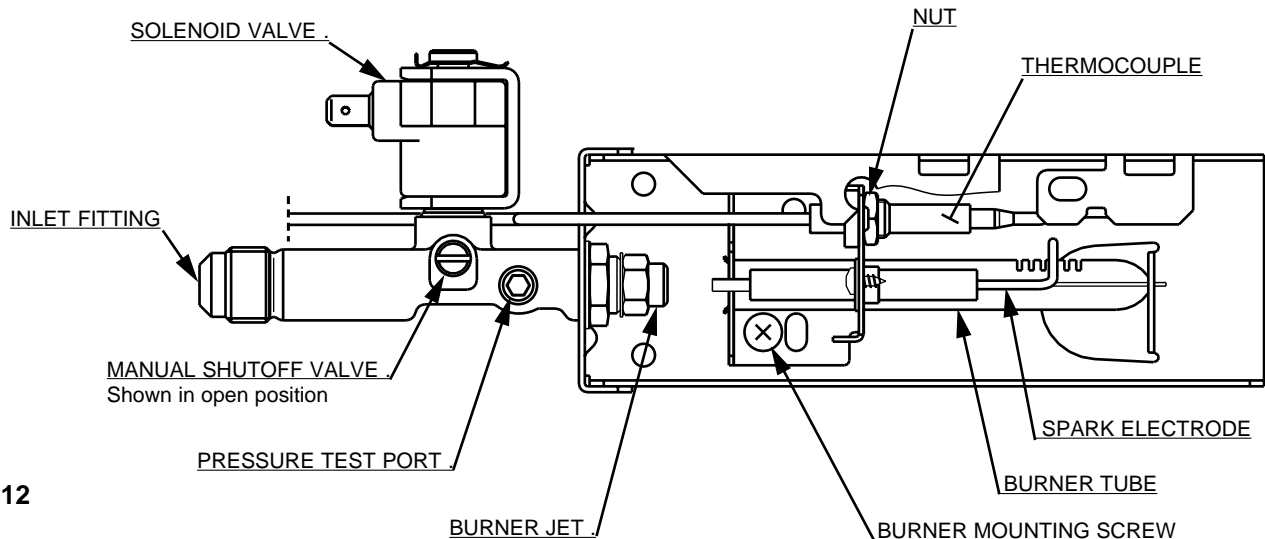

FIG. 12
- D. The LP gas pressure should be checked and the main regulator readjusted if pressure is incorrect. The correct operating pressure is 11 inches of water column. The correct place to take the LP gas pressure is at the test port just ahead of the burner jet. (See FIG. 12).
6. Remove the burner mounting screw and remove the burner assembly. (See FIG. 12).
Set main regulator so pressure does not drop below 11 inches of water column at pressure test port. (See FIG. 12).